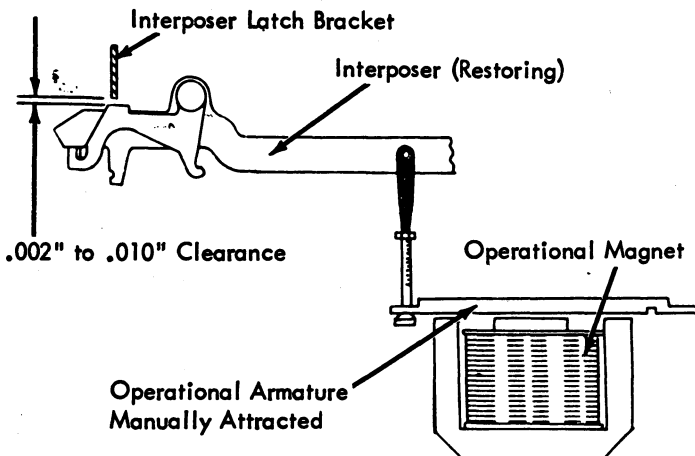

FIGURE 172. Check, Trip Link
5. Pull Link (Fig. 172) - Adjust the operational pull links so that a .002" to .010" clearance exists between the interposer latch bracket and the interposer latch at the point of relatching.